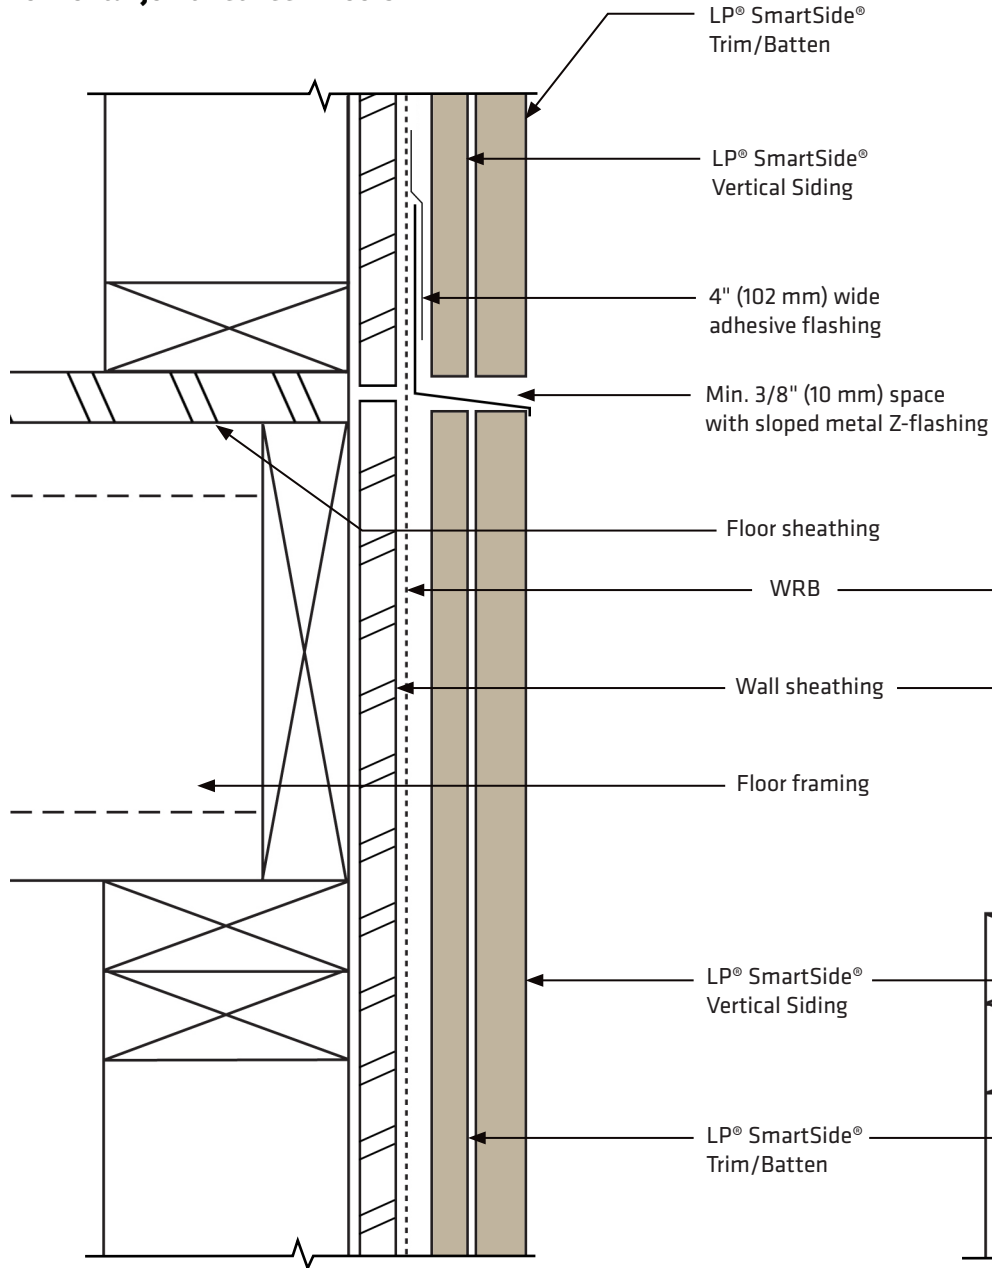

Figure 5a
- Vertical Siding or Batten may only span one plate-to-plate. Due to plate shrinkage, each vertical application is not to span beyond one floor to ceiling distance, or one floor to top of gable distance. *(See Figures 5a & 5b)*
- **DO NOT bridge floors with Vertical Siding or Battens.** *(See Figure 5a)*